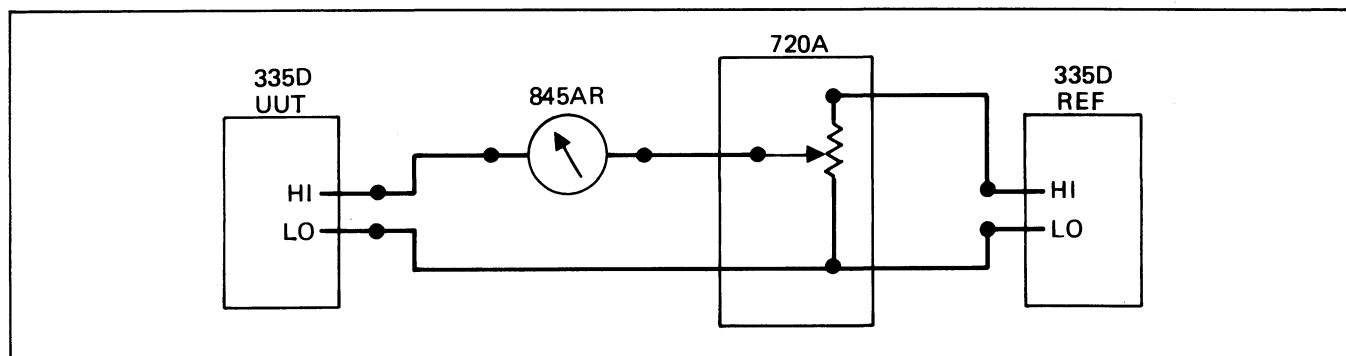

Figure 4-11. Equipment Connections for Sample Linearization Checks
1. Using the Model 7105A DC Calibration System or equivalent components, make the equipment connections shown in Figure 4-11.